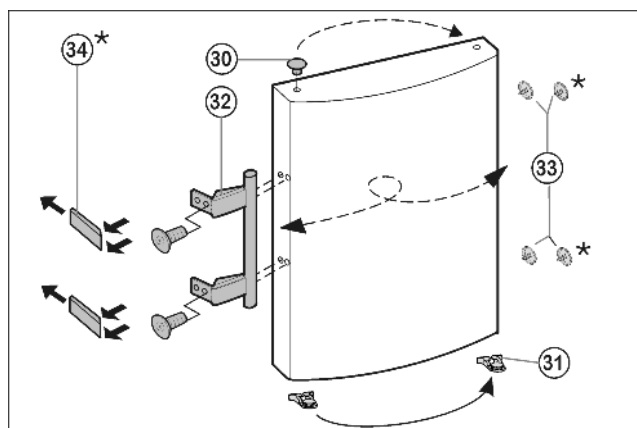

Fig. 7
- ▶ Lift the stopper *Fig. 7 (33)* out of the door bearing bush and transfer it.
- ▶ Dismantle the door handle *Fig. 7 (32)*, stoppers *Fig. 7 (33)* and pressure plates\* *Fig. 7 (34)* and transfer to the opposite side.